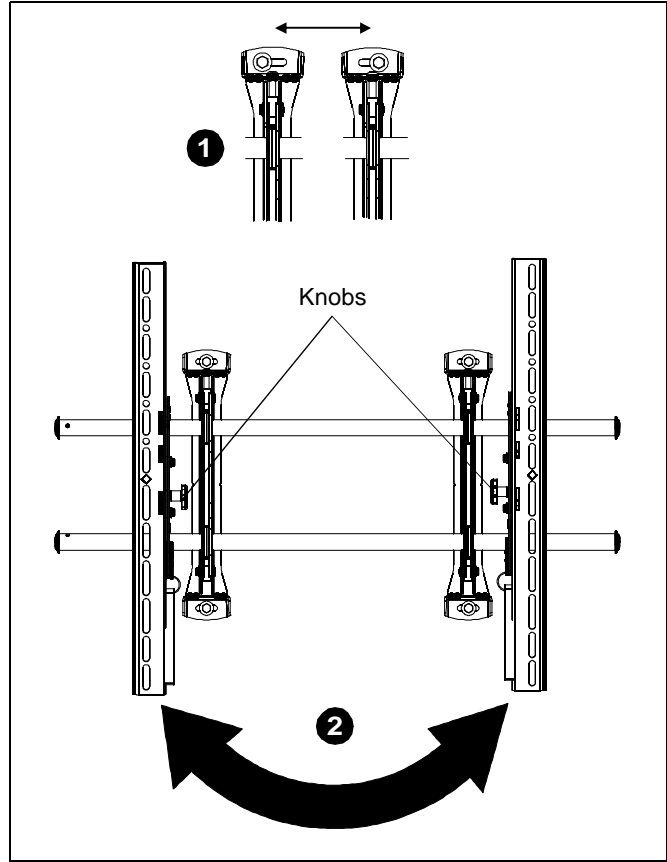

Figure 5
1. The wall brackets may be adjusted side to side at the point of attachment. (See Figure 5)
2. The location of the left and right interface brackets may be switched, with the knobs on the XTM interface brackets facing the inside of the mount. (See Figure 5)